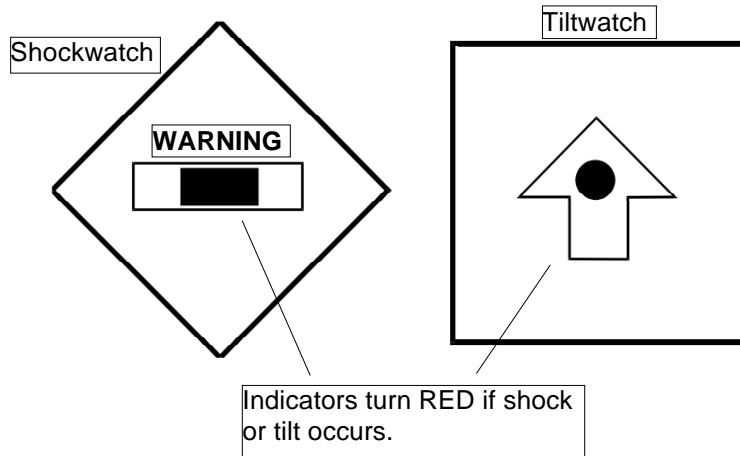

Figure 2-1. Shockwatch and Tiltwatch Indicators
1. Inspect the Shockwatch and Tiltwatch indicators. See Figure 2-1. The indicators turn red if they have been activated. If any indicator has been activated, make a note on the bill of lading and inspect the scanner for damage. [Shockwatch and Tiltwatch are registered trademarks of Media Recovery, Inc.] Inspect the scanner for any apparent physical damage. If damage is noted, make a note on the bill of lading and request a hidden damage report from the shipper. Remove the crate cover, if the unit is in a crate.